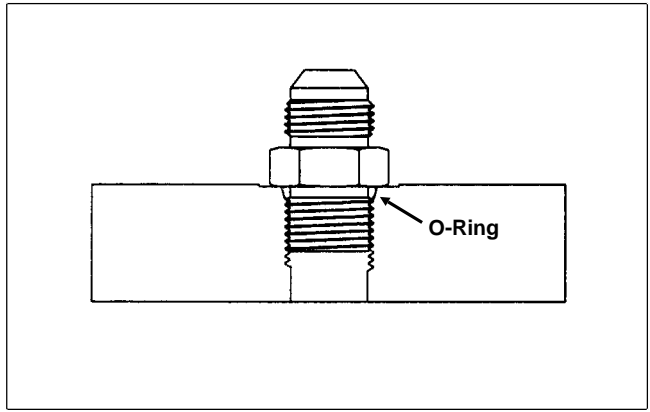

Figure 4
4. Install the fitting into the port and tighten it down full length until finger tight (Fig. 4).